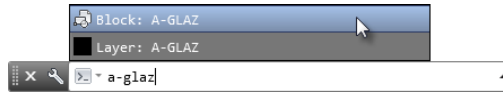

FIGURE 7.33: Inserting a block at the command line using an AutoCorrect selection list
3. Enter **A-GLAZ** at the command-line interface, and select Block: A-GLAZ from the AutoCorrect selection list shown in Figure 7.33.